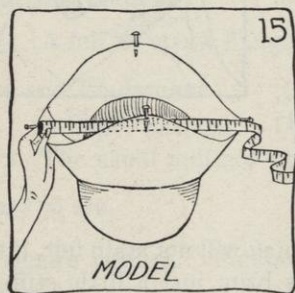
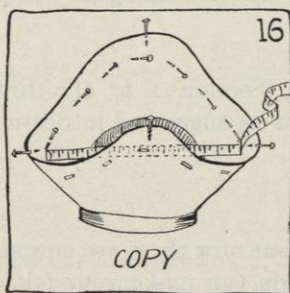

FIG. 15.
FIG. 16.
- e. Measure the crinoline brim all of the way across from front to back and from side to side (see Figure 15) and compare it with felt or straw brim (see Figure 16).